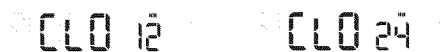

Figure 11: Clock 12 hour (L) or 24 hour (R) display
1. Press **user pref** until the preset **12hr clock display** mode appears (Figure 11).
1. Use **+hi** or **-lo** to toggle to the **24hr** option (Figure 11).